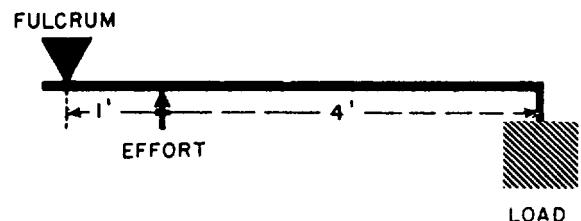

Figure 1G
- 1-24. The mechanical advantage of the lever in figure 1G is